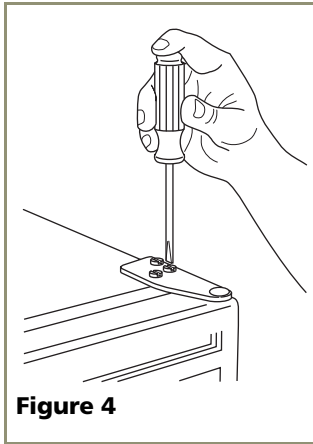

Figure 4
1. Remove top hinge from cabinet (three screws). See **Figure 4**. Hold door to keep it from falling.